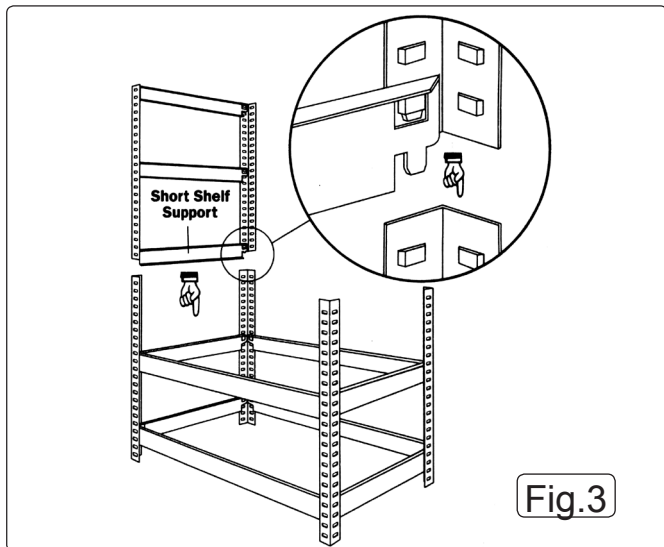
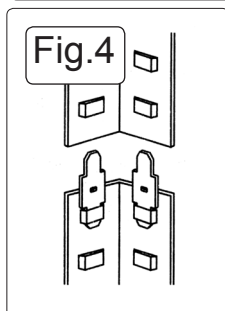

Fig.3
Fig.4
- 4.4 Decide the shelf positions for the upper section of the shelves and assemble two more end frames, each using 2 leg angle sections and 3 short shelf supports ensuring that the shelf supports are at the same height on both frames. The upper half can be joined to the lower half by using the lower shelf supports as shown in Fig.3. If the lower shelf is not positioned at the centre of the frame use the special joining pieces supplied as shown in Fig.4.